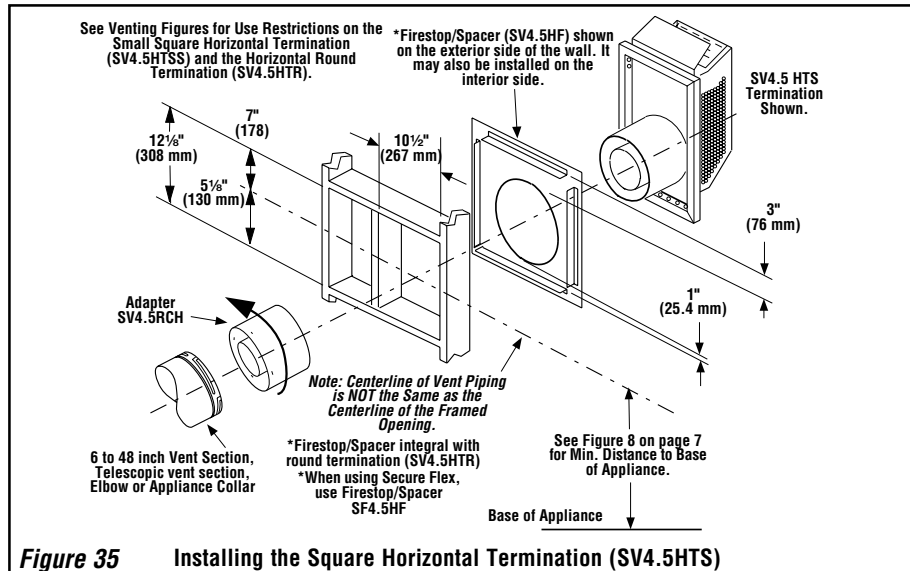
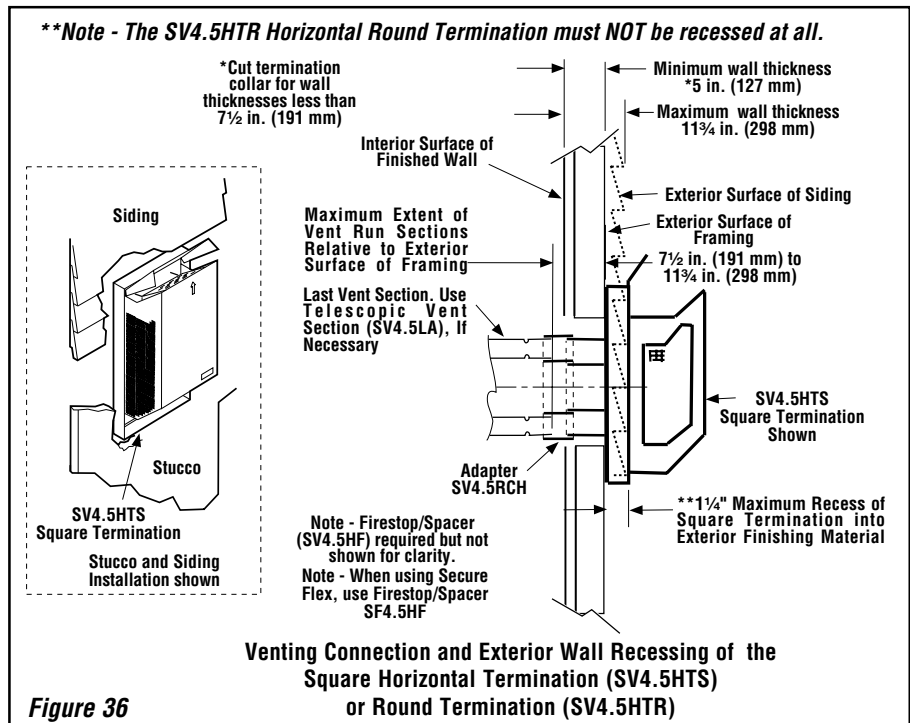

Figure 35 Installing the Square Horizontal Termination (SV4.5HTS)
Figure 36
J. Assemble vent run to exterior wall - If not previously measured, locate the center of the vent at the exterior wall. Prepare an opening as described in **Step B**. Assemble the vent system to point where the terminus of the last section is within 7½ in. (191 mm) to 11¼ in. (298 mm) inboard of the exterior surface to which the SV4.5 HTS termination is to be attached, see **Figure 36**. If the terminus of the last section is not within this distance, use the **telescopic vent section SV4.5LA**, as the last vent section. For wall thicknesses greater than that shown in **Figure 35**, refer to **table 3 on page 18**. This table lists the additional venting components needed (in addition to the termination and adapter) for a particular range of wall thicknesses.
K. Attach termination adapter - Attach the adapter (adapter - SV4.5RCH - provided with the termination) to the vent section or telescoping vent section, elbow or appliance collar as shown in **Figure 35** in the same manner as any SV4.5 vent component (refer to **Step E**).
L. Install Firestop/Spacer at exterior wall - When using the **square** termination, install SV4.5HF (Secure Vent), SF4.5HF (Secure Flex) Firestop/Spacer over the opening at the exterior side of the framing, long side up, with the 3 inch spacer clearance at the top as shown in **Figure 35**, and nail into place. (The Firestop/Spacer may also be installed over the opening at the interior side of the framing.) When using the **round** termination, a separate firestop/spacer is not required since this termination has integral spacers which provide the same function as a separate firestop/spacer.
Orient the housing of the termination with the arrow pointed upwards. Secure the termination to the exterior wall. **The SV4.5HTR Round Termination may not be used when the appliance is vented directly out the wall from the side as shown in Figure 36. Do Not recess the SV4.5HTR round termination at all.**
*Note: See **Figure 36** for wall thickness range reductions when using SV4.5HTS termination.